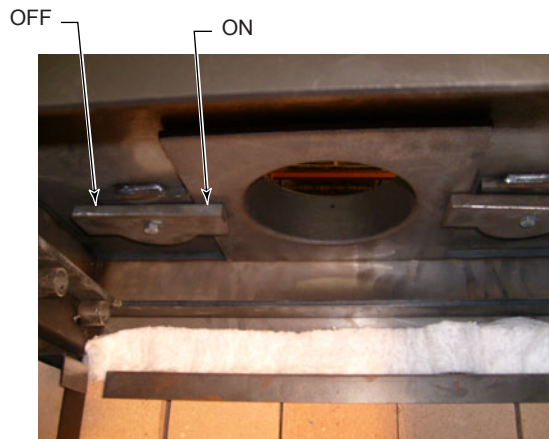
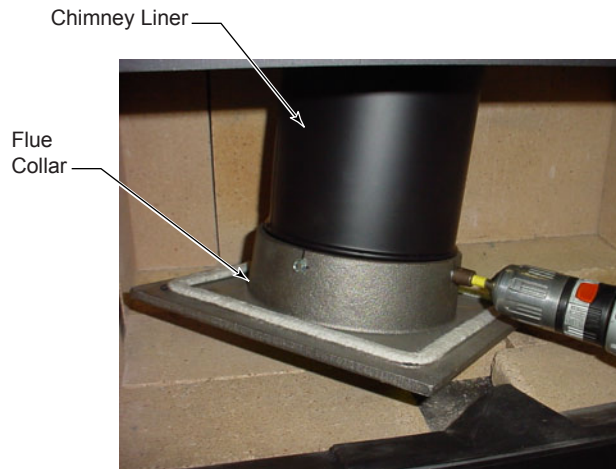

Figure 14
Figure 15
5. The flue collar has two rotating cam locks that will require the use of a hammer to unlock and lock. *Figure 14* shows the direction the cams need to turn to lock and unlock. The flue collar is made of cast iron and is fairly heavy so you should use something such as a piece of wood to support it. Once the flue collar has been lowered into the firebox you can lower the chimney liner into the collar and fasten it with screws. *Figure 15.* When putting the flue collar with the liner back in place, make sure the ceramic gasket is in place. Use only high temp ceramic fiber gaskets available at your Vermont Castings dealer. **NOTE: The flue collar has one side about 1/2" shorter than the other three. This shorter side must be installed toward the rear of the firebox.** Raise the flue collar chimney assembly and support it in place. Carefully hammer the cam locks over the flue collar alternating from one side to the other until they are parallel to the back of the insert.